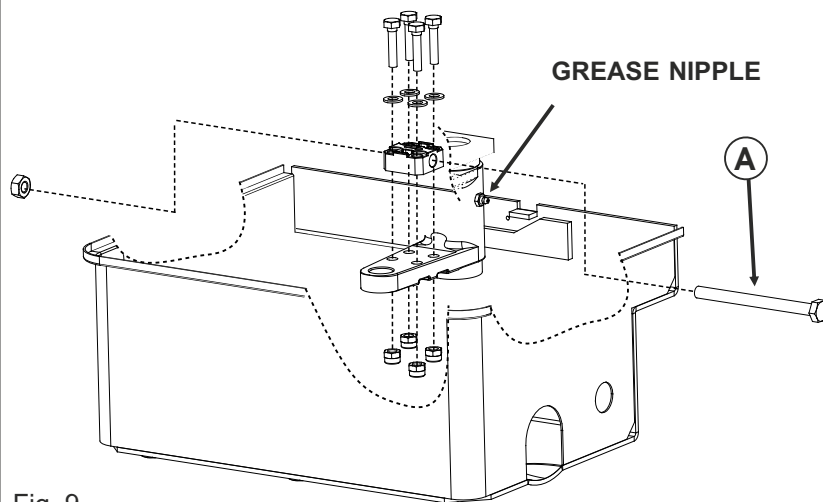
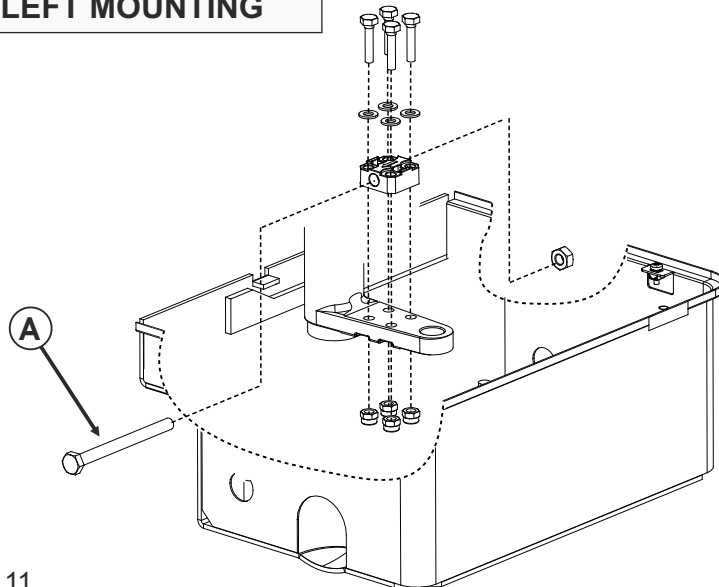

Fig. 9
Fig. 11
3.1. Insert the limit switch support on the rod support unit and fix it with the screws (Fig. 9 or Fig.11)
3.2. Insert the «A» screw (Fig. 9 or Fig. 11) as shown in the drawing, paying attention to the direction of insertion given by the arrow on the support (Fig. 10a or Fig. 12a)